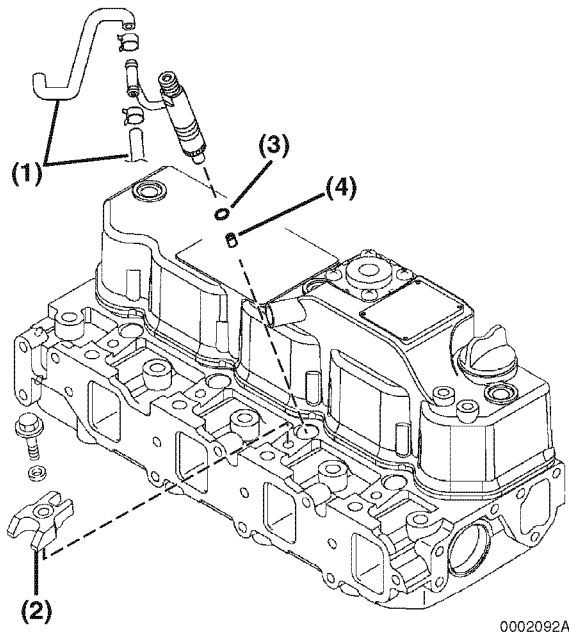

Figure 7-51
3. Remove the return fuel hoses (Figure 7-51, (1)) from one side of each fuel injector.
4. Remove the bolts and washers that secure the fuel injector retainers (Figure 7-51, (2)) to the cylinder head.
7. Remove the injector nozzle protector (**Figure 7-51, (3)**) and seat (**Figure 7-51, (4)**) from the cylinder head.